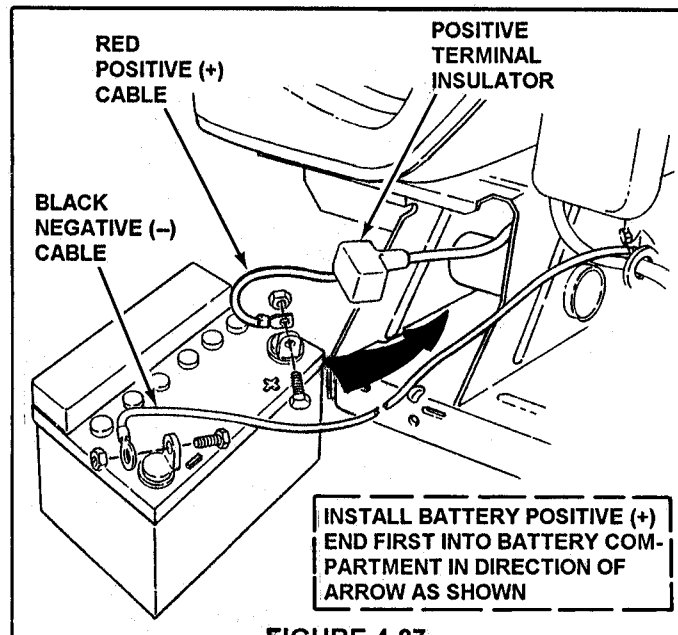

FIGURE 4.27
3. Observe and note cable positions on battery. See Figure 4.27.
Cables must be connected to battery terminals in the proper position as show in Figure 4.27.